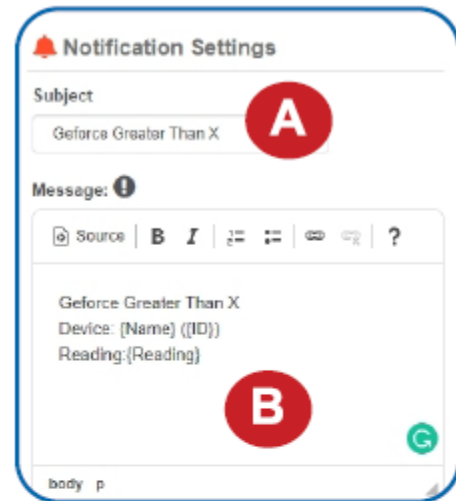

Figure 24
- A.** Input the subject for the notification. See Figure 24.
- B.** Customize the message body for the notification. See Figure 24.